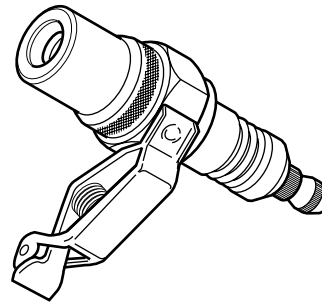

Figure 4-37. Spark Tester
- See Figure 4-37. A SPARK TESTER (Part No. HD-26792) must be used to verify adequate secondary voltage (25,000 volts) at the spark plug.